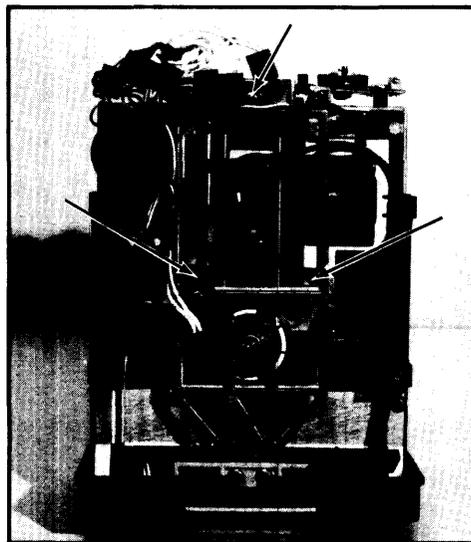

Figure 5-7: Track 0 Switch Retaining Screw
4. Slightly loosen the track 0 switch retaining screw shown in Figure 5-7.